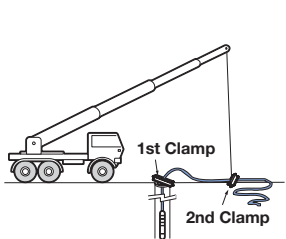

Fig 1.25
- 1.5.2.11 Remove the hoist from the first **WELLMASTER** clamp and attach to the second clamp (Fig. 1.25).